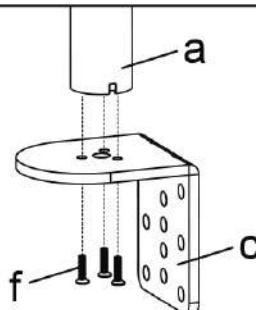

Figure 1
1. Install the "C" Clamp Brace(c) to the Pole (a) using 3pcs M5x14 Bolts(f), and tighten using the Allen Key(o), see Figure 1.